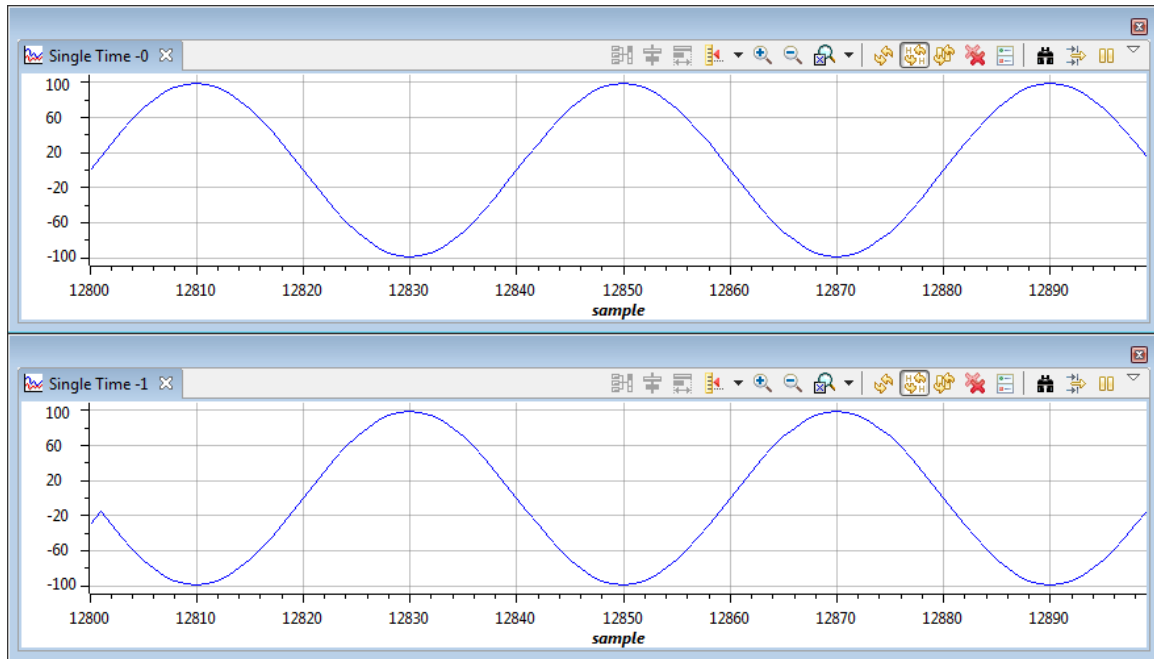

Figure 24: Input and Output graphs connected and updated via breakpoints.
6. Click Target→Run³. You should see graphs similar to those shown in figure 24.